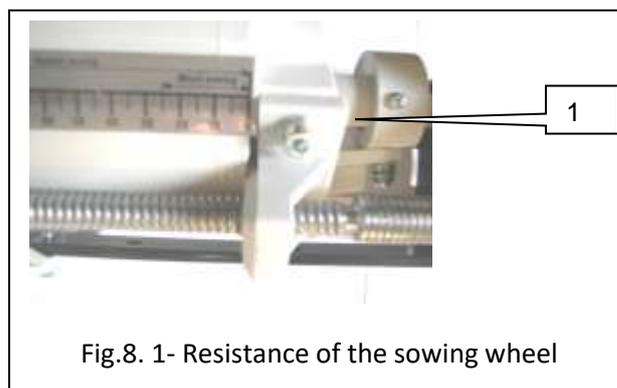

Fig.8. 1- Resistance of the sowing wheel
- set the resistance in the hex shaft cut-out (see Fig. 8) – **it is only possible with the metering roller completely closed**